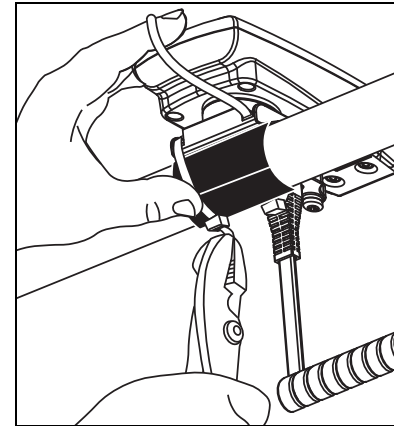

Figure 4: Install the receiver on the handlebar with wire ties
8. Place the receiver on the neoprene mounting pad, and then attach it to the handlebar using the wire ties. See Figure 4. Use the pliers to tighten the wire ties so the receiver cannot move.